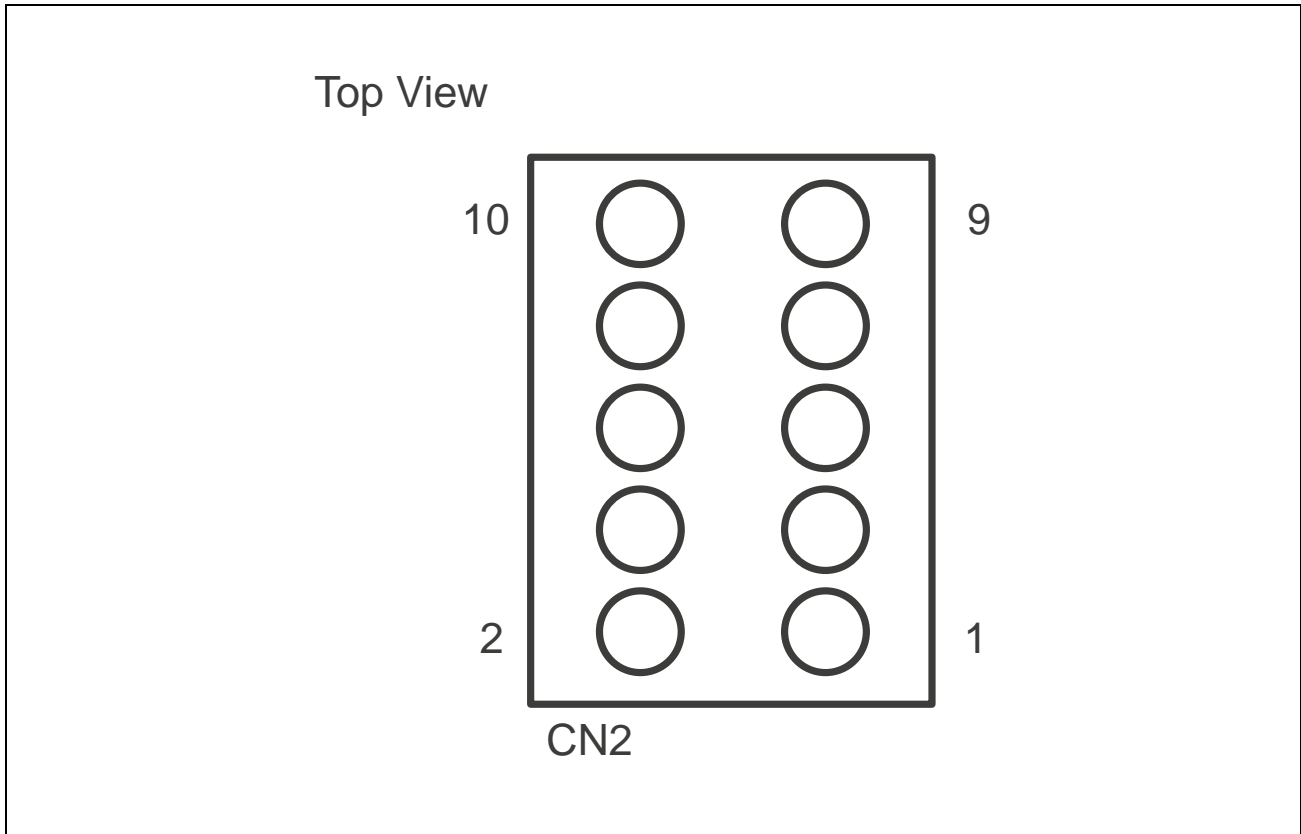

Figure 3.2 JTAG Connector (CN2) Pin Layout Diagram
**Figure 3.2** illustrates the layout of the connector pins. **Table 3.1** shows the assignment of the connector pins.